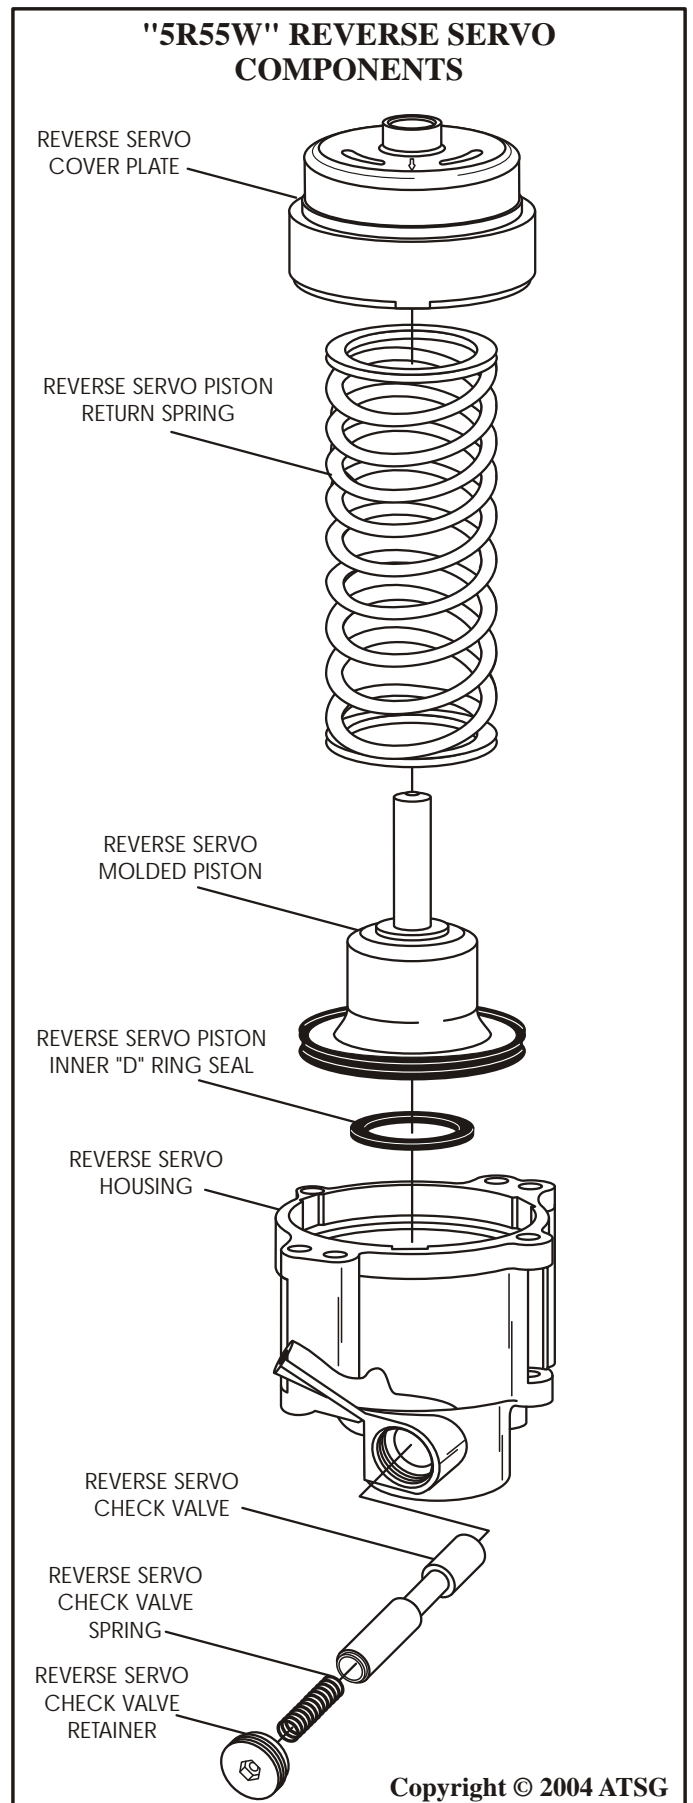

Figure 113
1. Disassemble the reverse servo assembly using Figure 113 as a guide.
Note: The reverse servo piston has a molded seal, as shown in Figure 113. Replace the piston assembly as necessary.
5. Remove and discard the reverse servo piston inner "D" ring seal from the servo housing, as shown in Figure 113.
6. Remove and inspect the reverse servo check valve and spring, as shown in Figure 113.